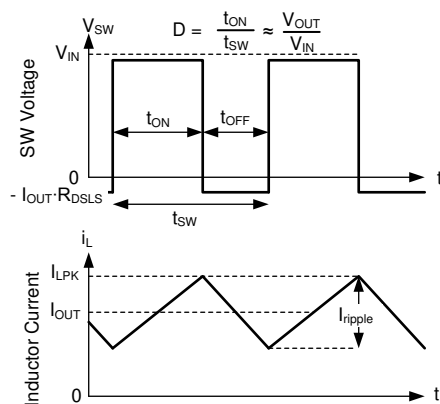

Figure 9-21. SW Voltage and Inductor Current Waveforms in Continuous Conduction Mode (CCM)
The following operating description of the LM62440-Q1 refers to Section 9.2 and to the waveforms in Figure 9-21. In CCM, the LM62440-Q1 supplies a regulated output voltage by turning on the internal high-side (HS) and low-side (LS) NMOS switches with varying duty cycle (D). During the HS switch on-time, the SW pin voltage, V_{SW} , swings up to approximately V_{IN} , and the inductor current, i_L , increases with a linear slope. The HS switch is turned off by the control logic. During the HS switch off time, t_{OFF} , the LS switch is turned on. Inductor current discharges through the LS switch, which forces the V_{SW} to swing below ground by the voltage drop across the LS switch. The converter loop adjusts the duty cycle to maintain a constant output voltage. D is defined by the on-time of the HS switch over the switching period: